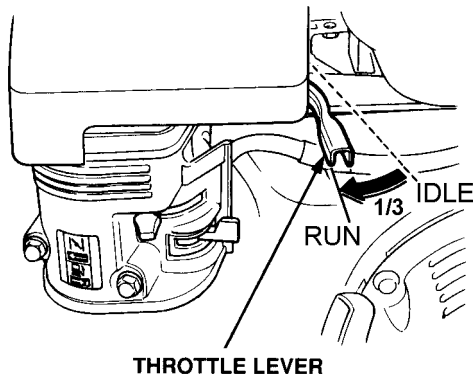

Figure 13. Throttle Lever (1/3 Start Position)
2. Move the throttle lever (Figure 13) away from the *idle* position, about 1/3 of the way toward the *run* position.